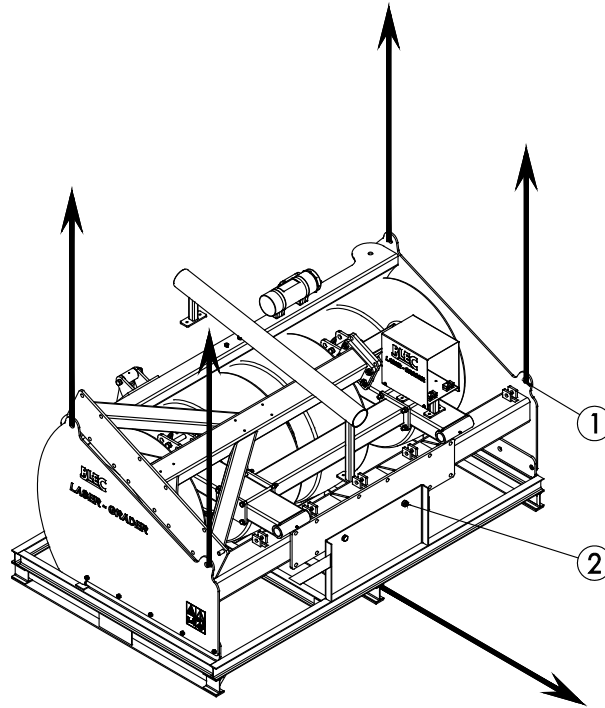

Figure 5
2. Remove the bolts and nuts (2) that attach the machine to the pallet.
3. Attach cables to the hoisting points (1) (see Figure 5).